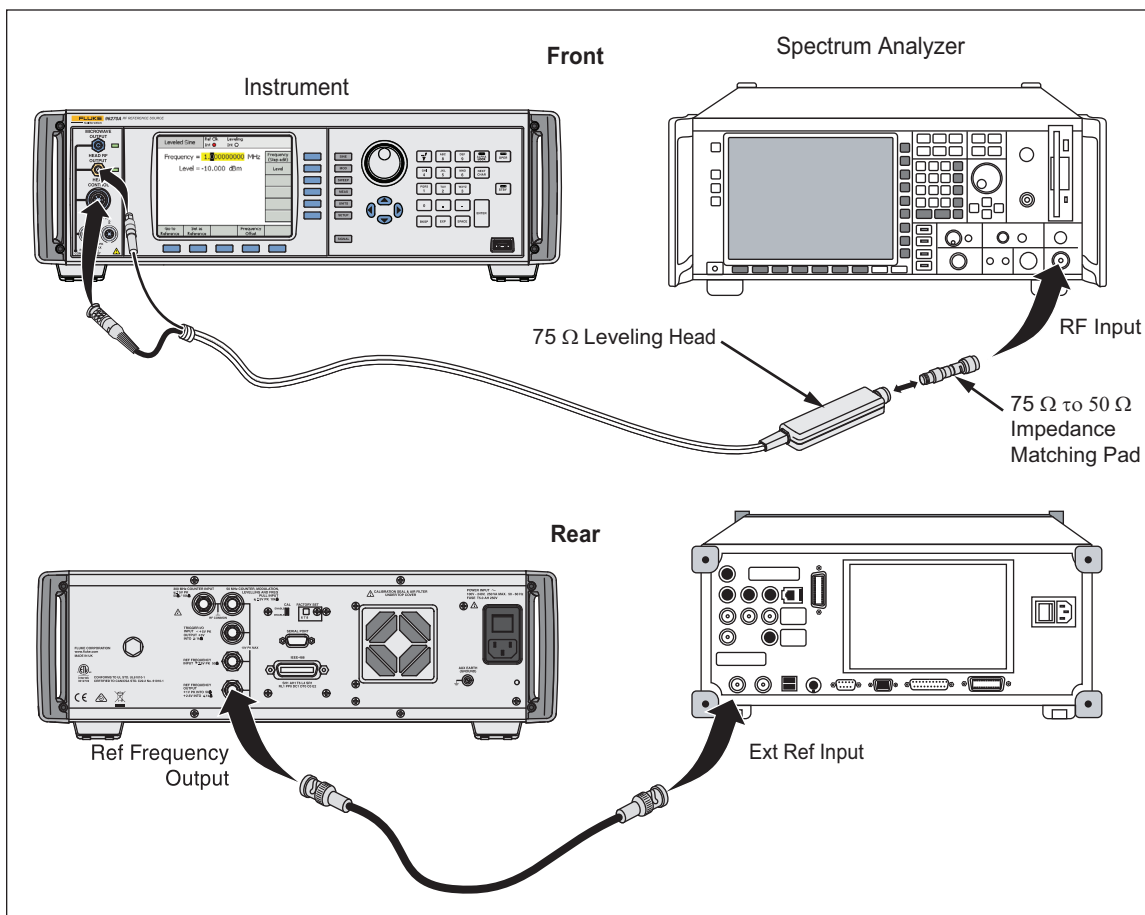

Figure 3-12. Equipment Connections- 75 Ω Leveling Head, Low Level Accuracy Test Points (96040A and 96270A)
18. Connect the Leveling Head to the RF INPUT of the Measuring Receiver and connect the REF FREQUENCY OUTPUT (rear panel) from the UUT to the Spectrum Analyzer Ext Ref In (on rear). See Figure 3-12 for equipment connections.